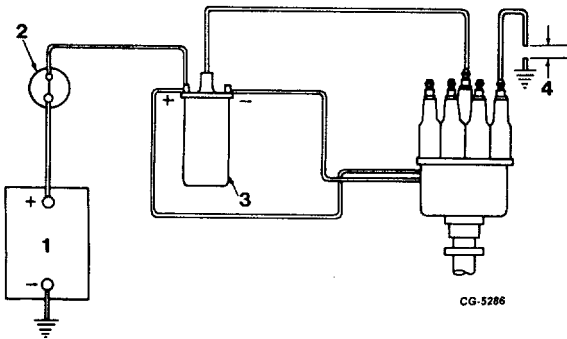

Fig. 47 Checking for Spark at Plug
Disconnect high tension cable from one spark plug. (always grasp spark plug boot and use a twisting motion when removing plug cables so as not to destroy resistance wire termination.) Insert extension adaptor into boot and engage in cable terminal. Using insulated pliers, hold plug cable to create about 13 mm (1/2") gap between extension adapter and engine (Figure 47). Have an assistant crank engine. Observe for spark across gap.
3. Test for spark at distributor cap. Disconnect high tension cable from center tower terminal of distributor cap. Insert extension adaptor into boot and engage in cable terminal. (Figure 44). Using insulated pliers, hold cable to create about 13mm (1/2") gap between cable terminal and engine (Figure 47). Have an assistant crank engine. Observe for spark across gap.